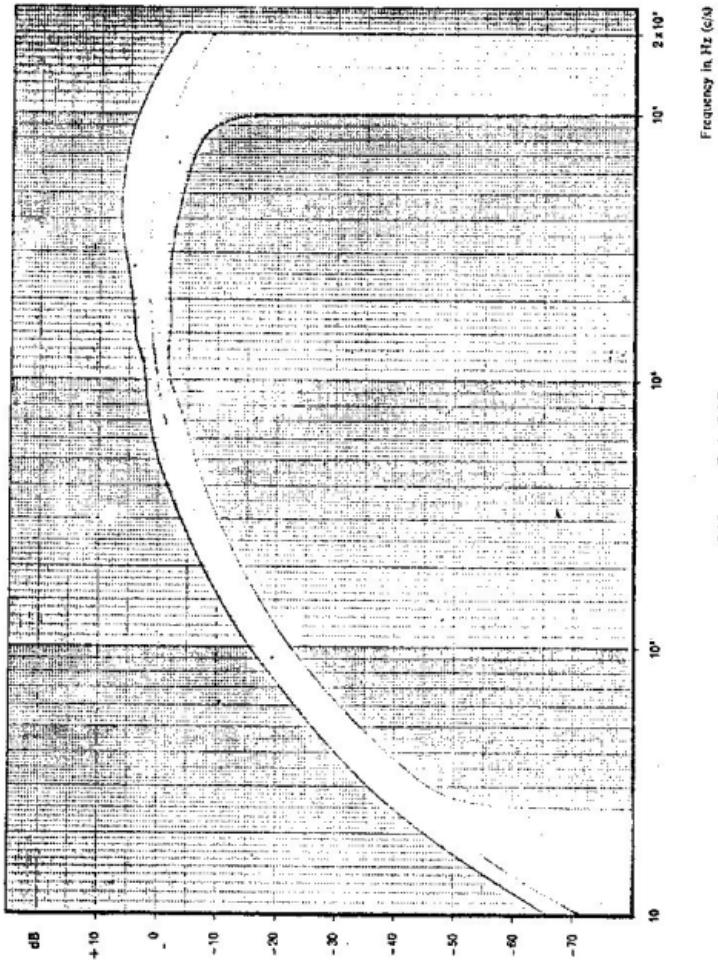

FIG. 3 Filter IEC 123
- (2) As under (1) above, but with a weighting curve filter connected - IEC 123/A (Fig. 3). This filter should be used especially in signal-to-noise and crosstalk measurements.
- (3) As under (1) above, but without monitoring.
- (4) Monitor speakers connected directly (unattenuated!).
- (5) Measurement of channel balance. The moving-coil-meter reading approaches 0 when the signal voltages applied to the left and right channels are equal and 180 degrees out of phase. Attenuated monitoring as under (1) above.
Service manuals often specify the use of a weighting curve filter (Fig. 3). The RWM 4 incorporates such a filter. To use it, depress the " " button instead of " ". The above formulas should be used ((3), (4) and (5)).